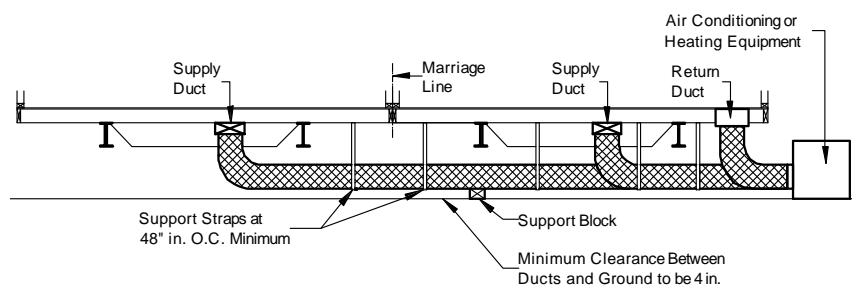

Figure 85. Ducts connecting exterior heating and/or cooling equipment to the home
2. **Install ducts.** Install the appropriate supply and return ducts (not provided) between the remote unit and the home (**Figure 85**), making connections according to the instructions for crossover ducts in **Crossover Connections** (p. 56).
Prepare the whole-house ventilation system according to the ventilation system manufacturer's instructions. Confirm that any fresh air intake ducts extend to the exterior and do not draw air from the crawlspace under the home. Do not allow any fresh air ventilation intake ducts to become kinked or restricted, forming a trap (**Figure 85**).